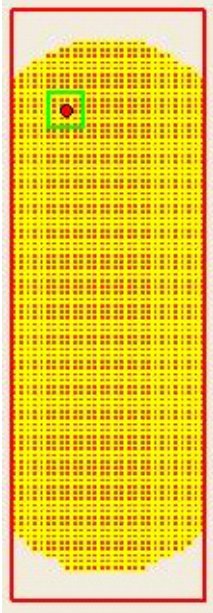

Figure 77 Use the mouse to drag the green-box cursor and to move the flowcell stage the same way.
4. Use the mouse to drag the green-box cursor to a position on the upper-left side of the slide. Dragging the green-box cursor moves the flowcell stage to that corner of the slide (see Figure 77 on page 104).